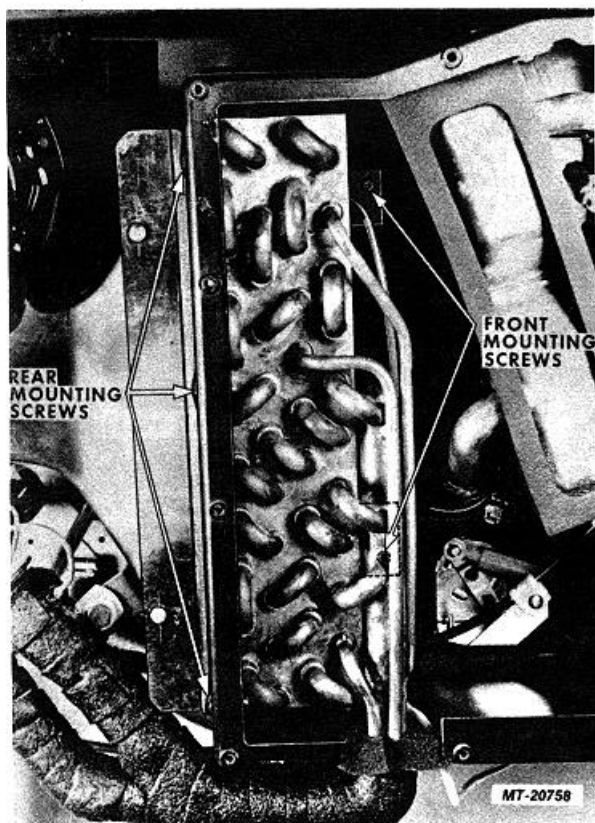

Fig. 47 Evaporator Core Mounting Screws
12. Remove evaporator core mounting screws (Fig. 47).